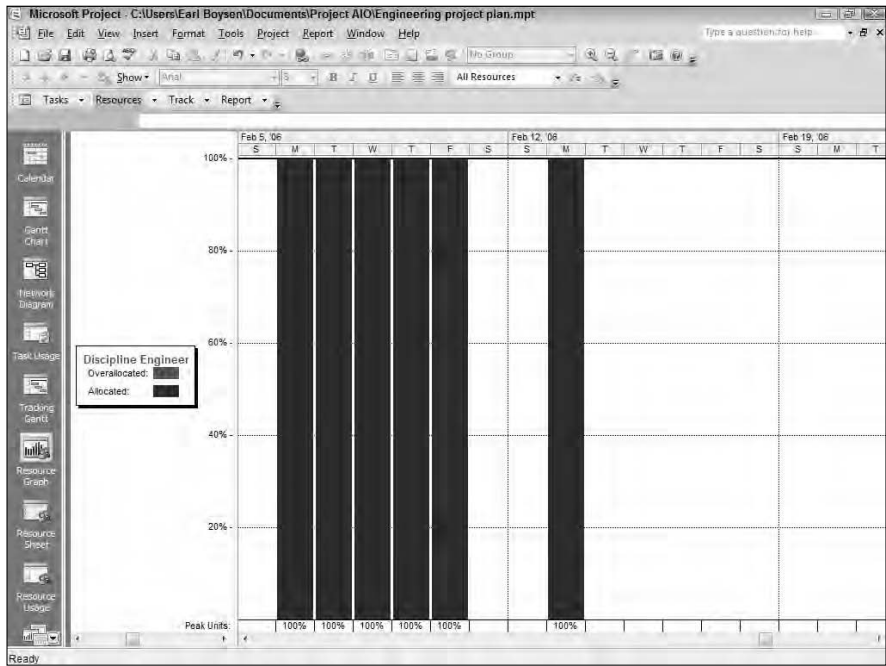

Figure 3-8:
- ◆ **Resource Graph** view (see Figure 3-8) offers a visual way to review workload, resource by resource. You can easily spot when resources are overbooked by looking at the peak units (often this is 100%) and the bars that show when a resource is booked over peak time.